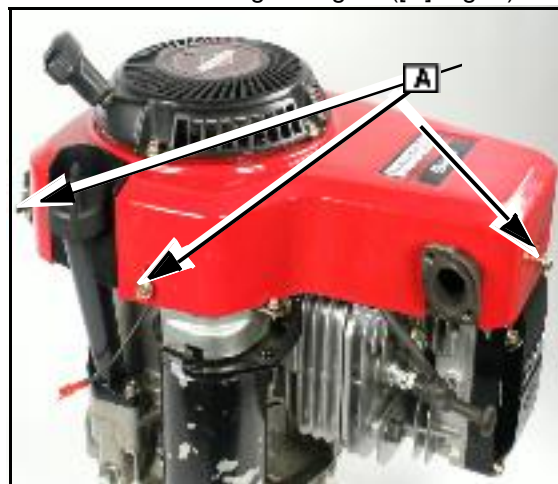

Fig. 3
1. Remove the five screws that secure blower housing to engine ([A] Fig. 3).